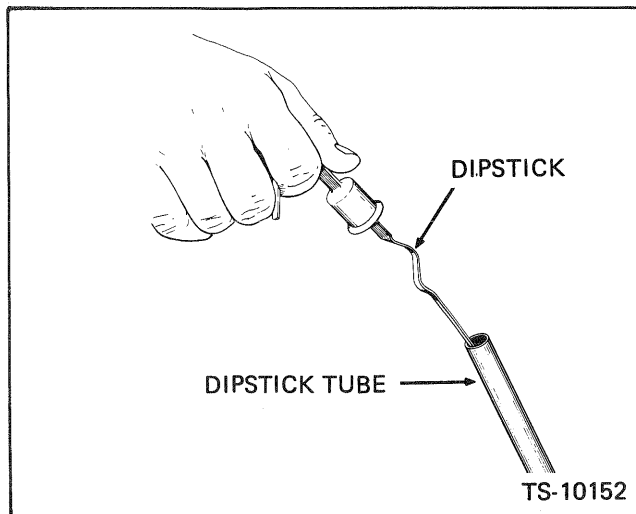

Fig. 9-1 Dipstick — Transmission
Check, using the dipstick located to the left, below the operator's seat for the position of the dipstick. Fig. 9-1. Pull out the dipstick and wipe with a
7. Refill the transmission and torque converter with the type of fluid specified in this through the filler neck until the correct level shows on the dipstick. Fig. 9-1